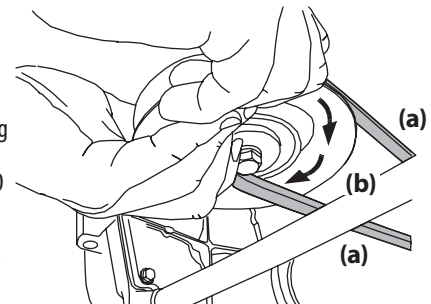

Figure 47
- d. While still holding the PTO belt (a) downward, continue turning the PTO pulley (b) until the PTO belt (a) is rolled off the PTO pulley (b). Refer to Figure 47.
10. While holding the PTO belt and PTO pulley together, rotate the PTO pulley to the left (see Figure 47 on page 21). Continue holding and rotating the PTO pulley and PTO belt until the PTO belt is fully rolled into the PTO pulley.